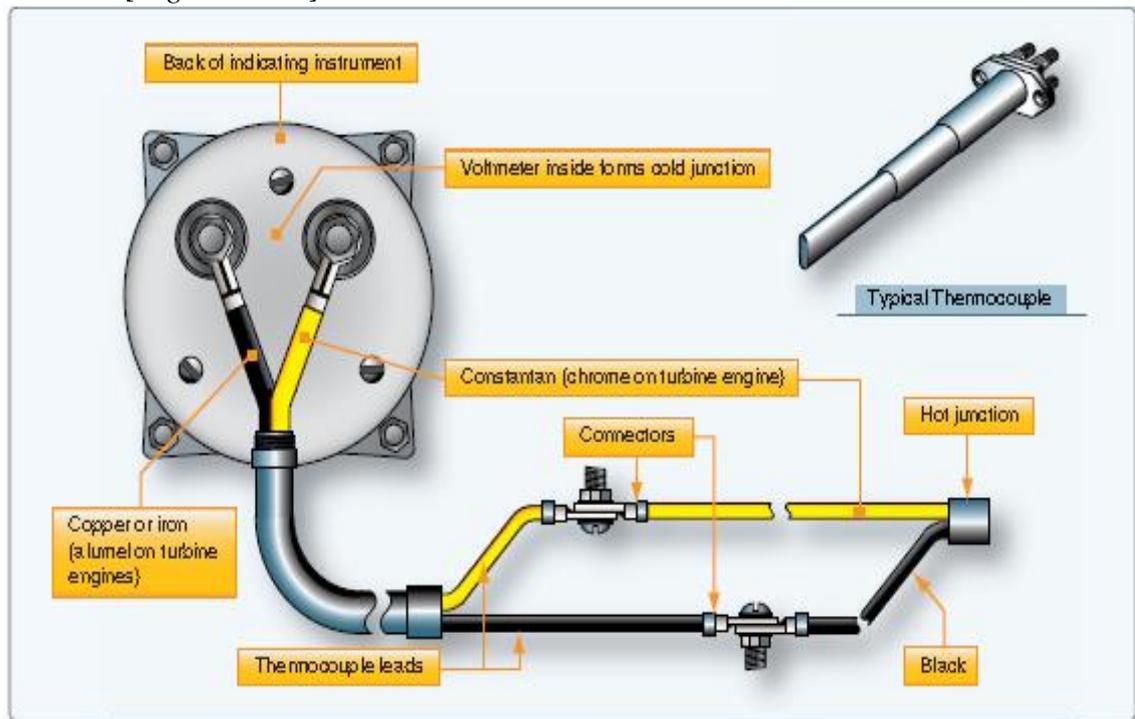

Figure 10-71. Thermocouples combine two unlike metals that cause current flow when heated.
7. The hotter the high-temperature junction (hot junction) becomes, the greater the electromotive force produced, and the higher the temperature indication on the meter. [Figure 10-71]